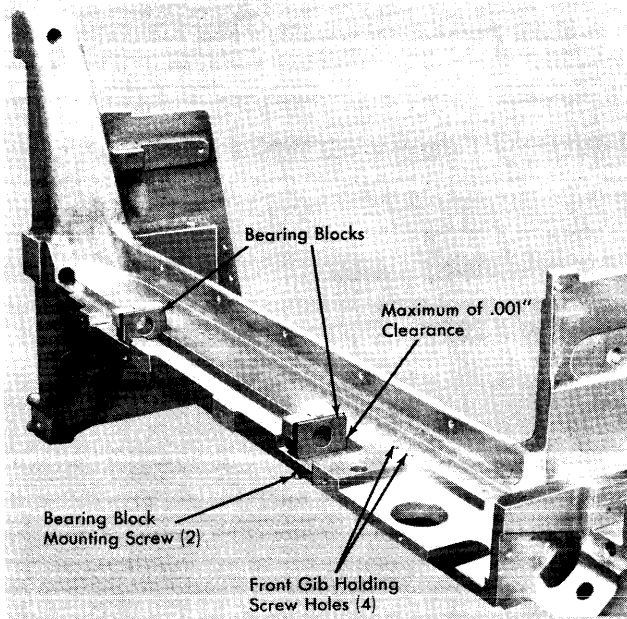

Figure 16. T-Casting (Movable Base Removed)
1. The two eccentric-shaft bearing blocks are seated against the front shoulders of the recess in the T-casting with a maximum allowable gap of .001" (Figure 16).